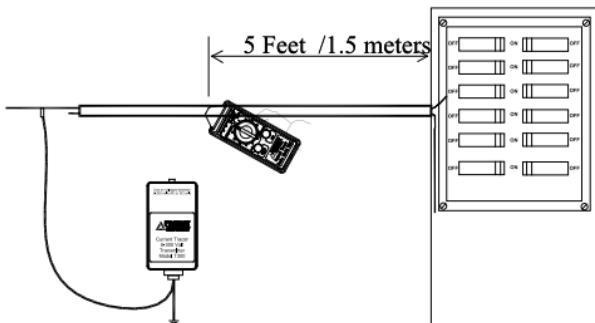

Fig.7 Receiver distance from circuit breaker panel when tracing conduit
7. Sweep the receiver across large areas until its signal locates the conduit. Narrow down the location of the conduit by adjusting the range switch (see Figs. 7) and changing the angle of the receiver.
Since the feeder panel may radiate the magnetic field to the nearby conduit, make sure the probe is always used more than 5 feet (1.5 meters) away from the circuit breaker panel during this application (see Fig. 7).